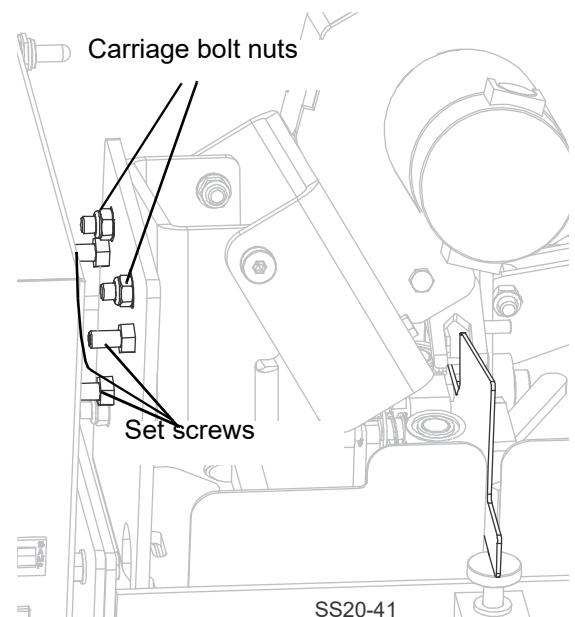

FIG. 4-3
6. If the motor and housing does not align properly, then loosen the two upper carriage bolt nuts where the motor housing bracket attaches to the base. See FIG. 4-3